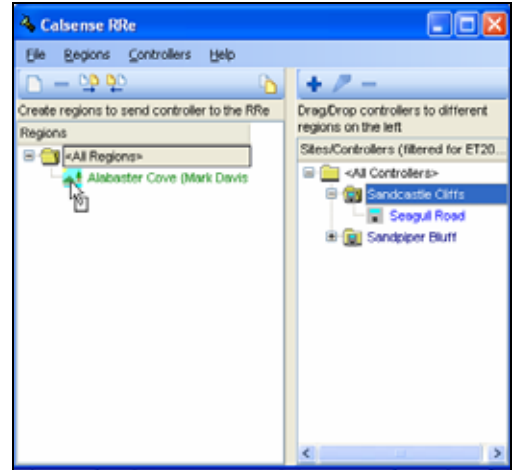

Figure 33.2.7
5. Click on the Site/Controller and hold down the left mouse button. Drag the Site/Controller over to the desired region. Release the mouse button. (Figure 33.2.7).